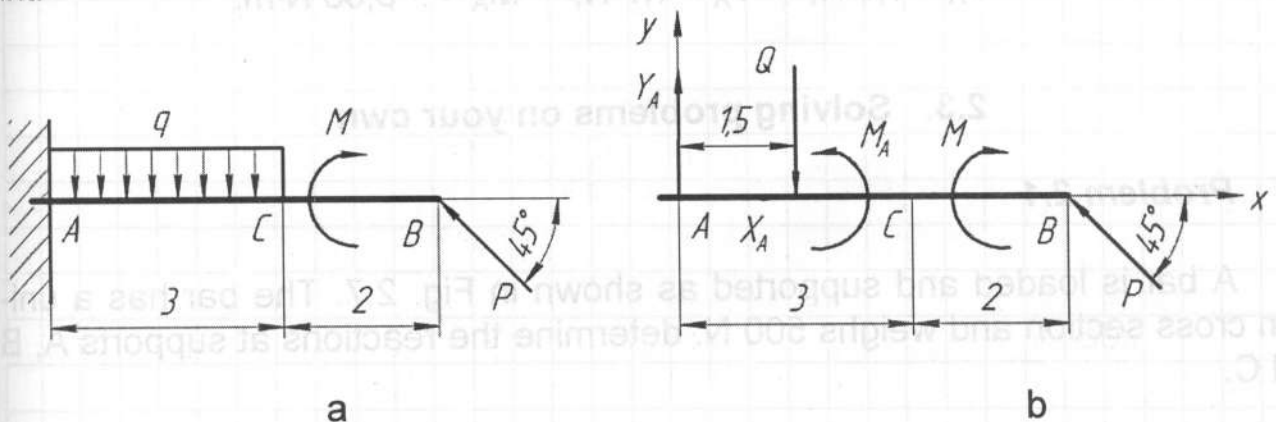

Fig. 2.6
On cantilever beam AB (Fig. 2.6, a) the couple of forces with the moment  $M = 2 \text{ N}\cdot\text{m}$ , the concentrated force  $P = 4 \text{ N}$ , distributed load  $q = 1,5 \text{ N/m}$ . Dimensions in meters shown on the figure. Determine the reaction of clamped point.
1. Construct a Free body Diagram (FBD) (Fig. 2.6, b).